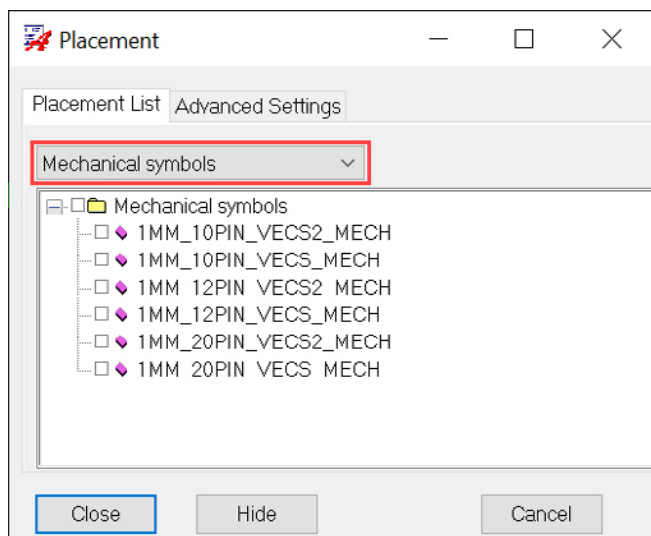

Figure 15: The manual placement pulldown menu.
- Using “place > manually,” select mechanical symbols for the filter pulldown (Figure 15) and place the symbol in free space in the layout